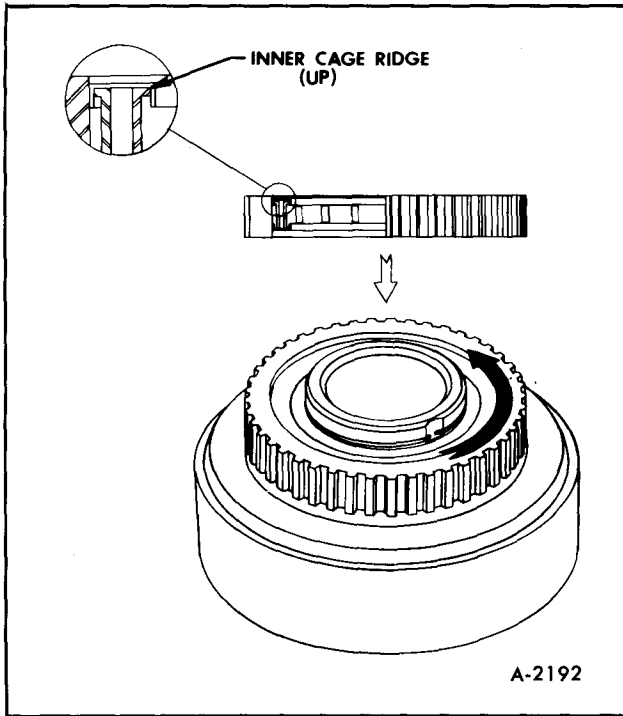

Figure 82—Sprag Rotation
**NOTE:** When installed, outer race should turn only counterclockwise, Figure 82.